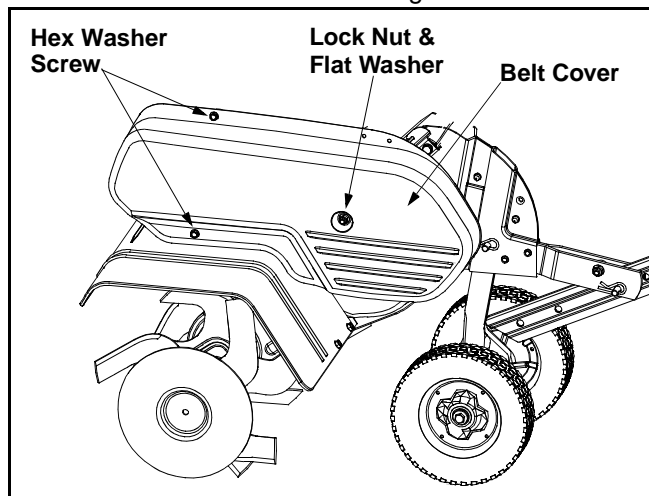

Figure 13
- Remove the belt cover. See Figure 13.